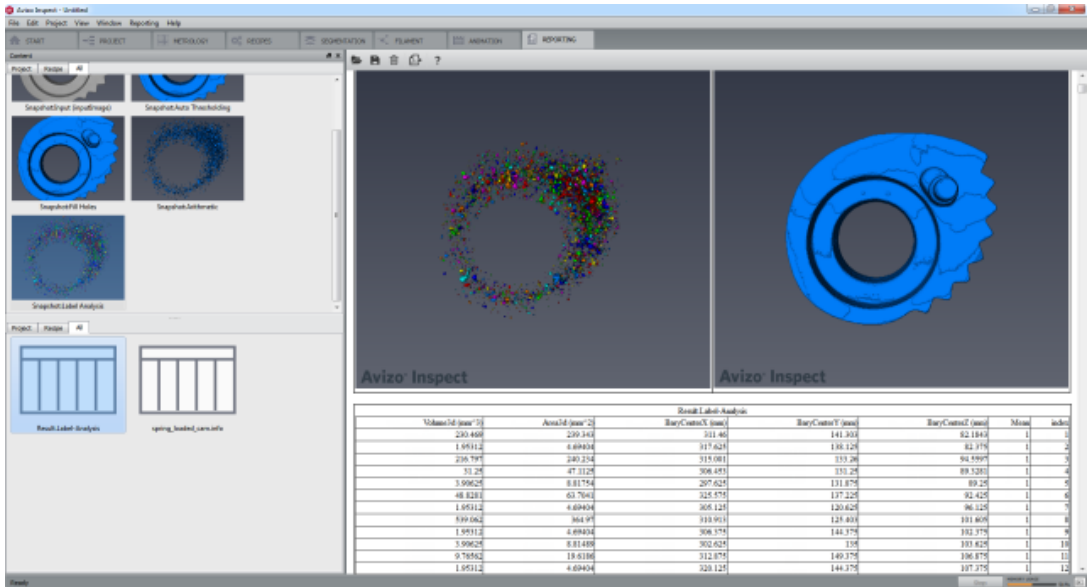

Figure 17.6: Report Example
7. Snapshots and tables can then be dragged-and-dropped to each frame of the template. Once this association is complete, the snapshots and tables will be automatically updated in the template each time the recipe is played. Once the association has been set, the template can be saved as a new template. This new template can be reloaded in Avizo and will be populated automatically each time the associated recipe is played (see Figure 17.6).